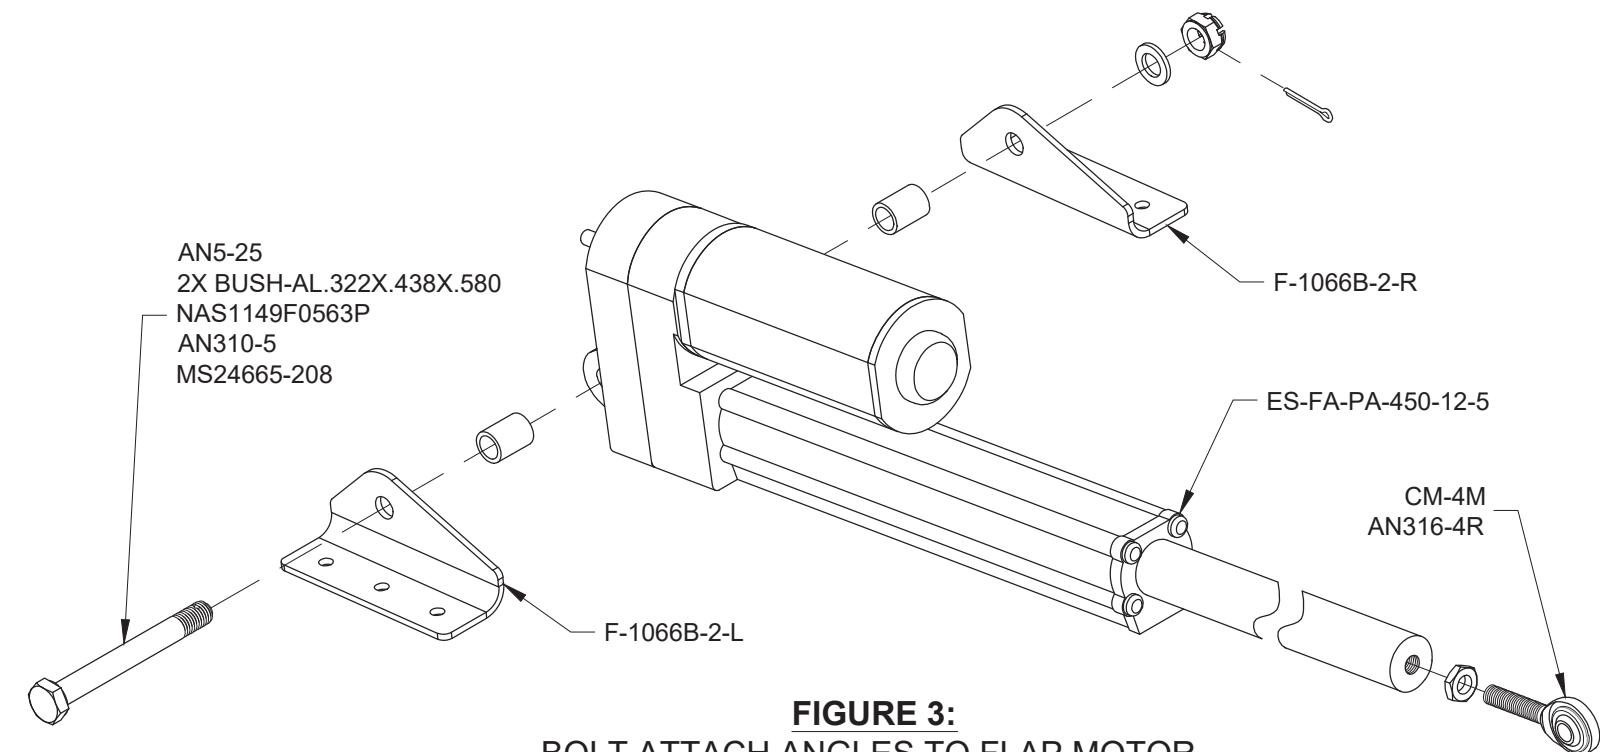

FIGURE 3:
Step 5: Assemble the ES-FA-PA-450-12-5 Flap Motor, F-1066B-2-L and F-10966B-2-R using the hardware and bushings called out in Figure 3. Tighten the castle nut just enough to remove end play but not enough to add excessive friction. The cotter pin will be installed later.
Step 3: Check for excessive friction and/or play. When satisfied install the cotter pin from Page 40-6, Figure 3.